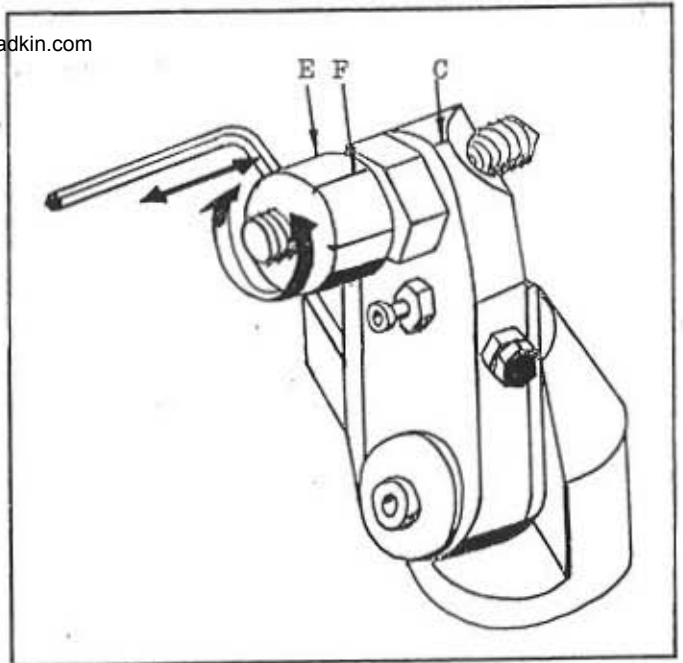

Fig 25
To fit a new dual radius dresser: Fig 24 - Remove the original diamond after first dressing a grinding wheel. Fit the longer dresser (A) and set the diamond (D) to just touch the grinding wheel (i.e. correctly set for 5 mm. thickness). Lock with locknut (B). File a vee mark (C) at the top centre of the dresser support. Fig 25 - Place the indicator (E) on the screw of the dresser and with one indicator mark to the right and the allen screw to the left. Align the top indicator mark (F) to the vee mark (C) and secure the indicator to the screw leaving a 1.5 mm. gap between this and the locknut.